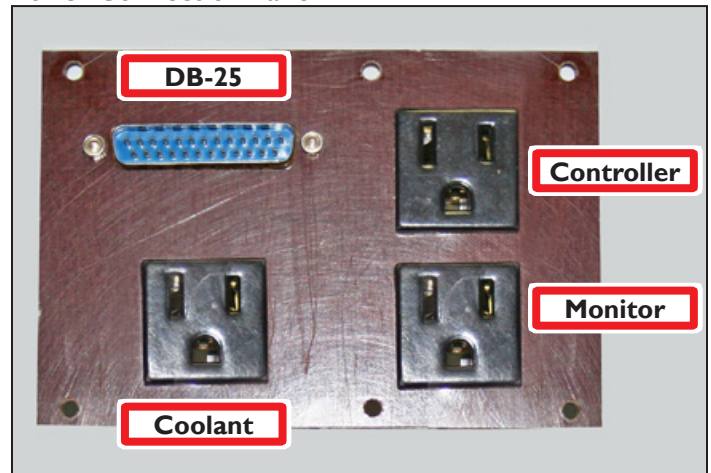

Figure 9
12. Connect Coolant Pump's 3-prong plug into outlet shown in **Figure 9**.